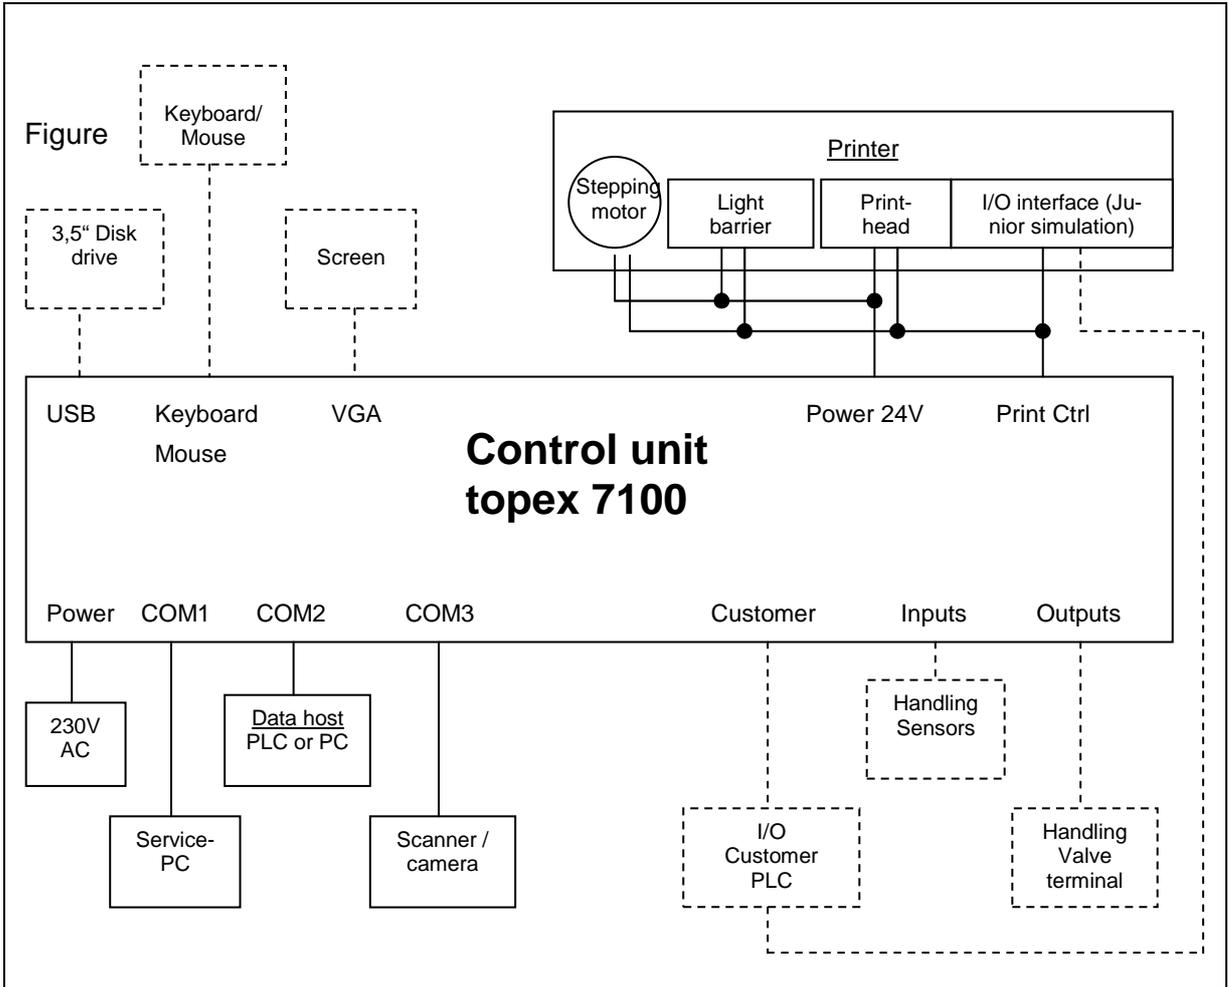

Figure 5 Block diagram
- Mount the connecting cable, see block diagram figure 5 and chapter 8.